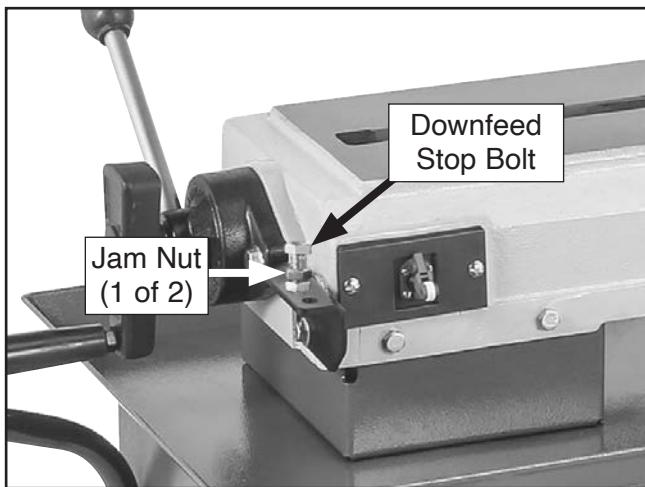

Figure 81. Location of downfeed stop bolt adjustment components.
3. Loosen (2) jam nuts shown in **Figure 81**, then tighten downfeed stop bolt until blade is just below table surface. Proceed to **Step 5**.
4. Loosen downfeed stop bolt (see **Figure 81**) until it contacts headstock.
5. Tighten jam nuts (see **Figure 81**) against bracket without turning downfeed stop bolt to secure setting.